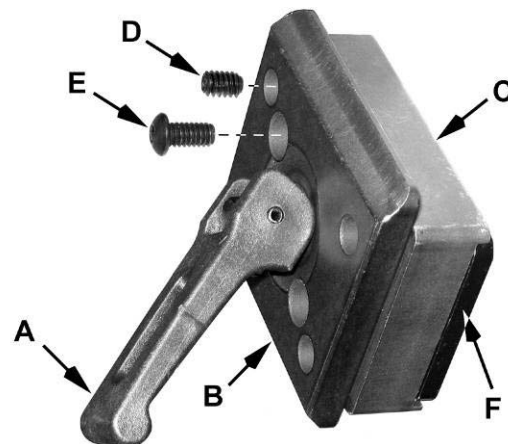

Figure 18
5. Using a 3mm hex wrench, make adjustments to four *set screws* (D, Figure 18) accessible through openings located in the corners of the *floating clamp block* (B, Figure 18).
Referring to Figure 18: